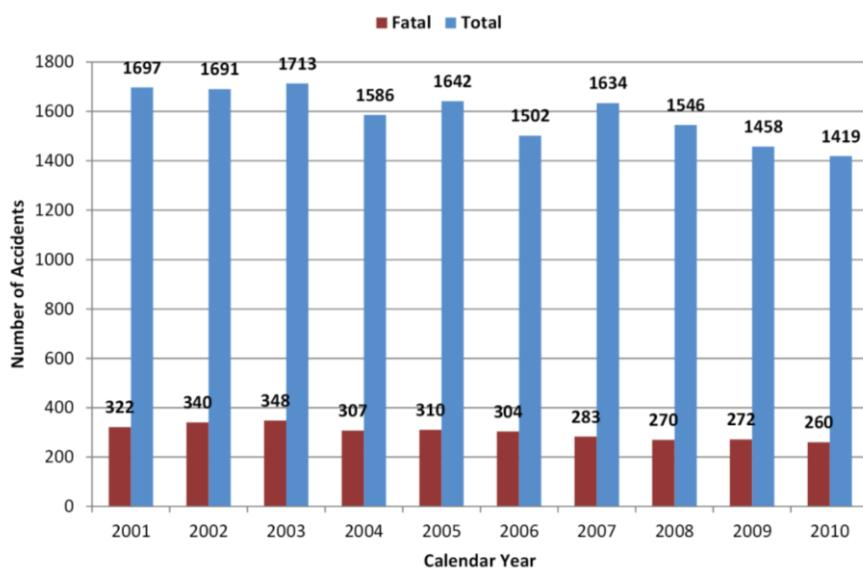
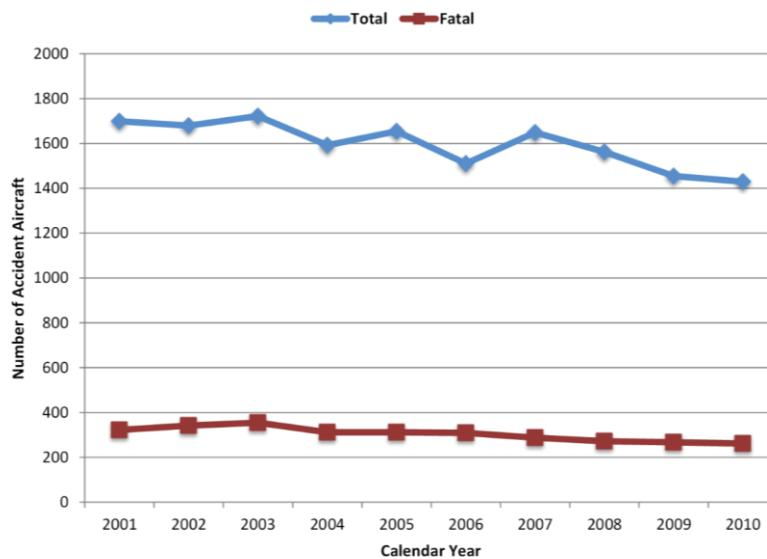

Figure 5.1, Number of GA accidents and fatal accidents, Source NTSB
Figure 5.2, Number of aircraft involved in GA accidents, Source: NTSB
General aviation (GA) is the umbrella term for any operation that does not operate under Parts 121, 135, or 129. In 2010, general aviation accounted for 96 percent of all aviation accidents, 97 percent of fatal aviation accidents, and 96 percent of all fatalities for U.S. civil aviation. In addition, general aviation accounted for 51 percent of the estimated total flight time of all U.S. civil aviation in 2010. Figure 5.1 shows the most recent analysis of total and fatal general aviation accidents from 2001 through 2010. Figure 5.2 shows the number of total and fatal accident aircraft for the same period.